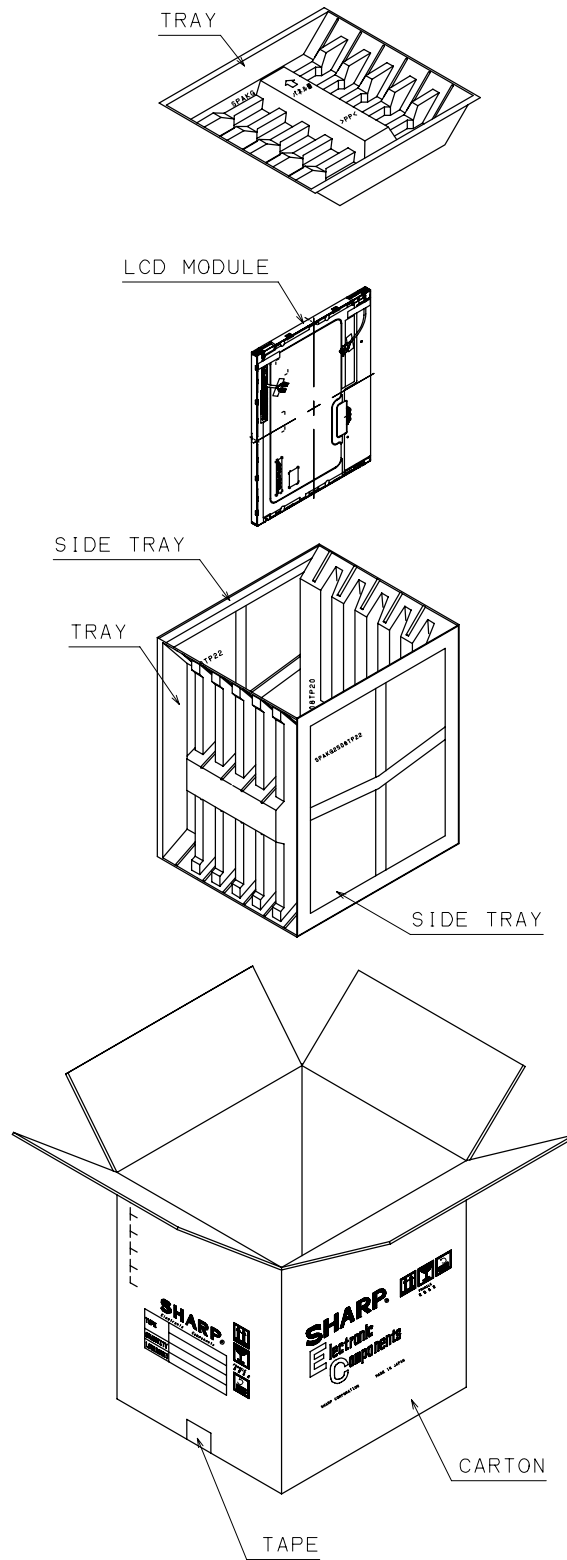

Fig. 3: PACKING FORM
- e) Packing form is shown in Fig.3